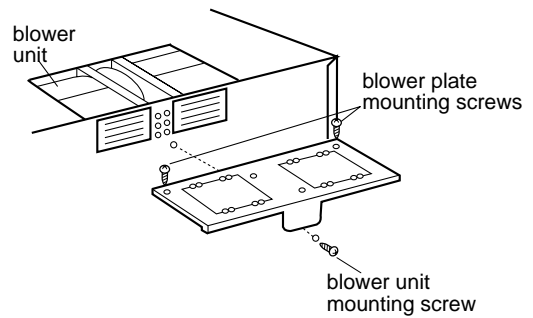

Figure 17
1. Remove one blower unit mounting screw and two blower plate screws. Remove the blower plate from cabinet. See Figure 17.